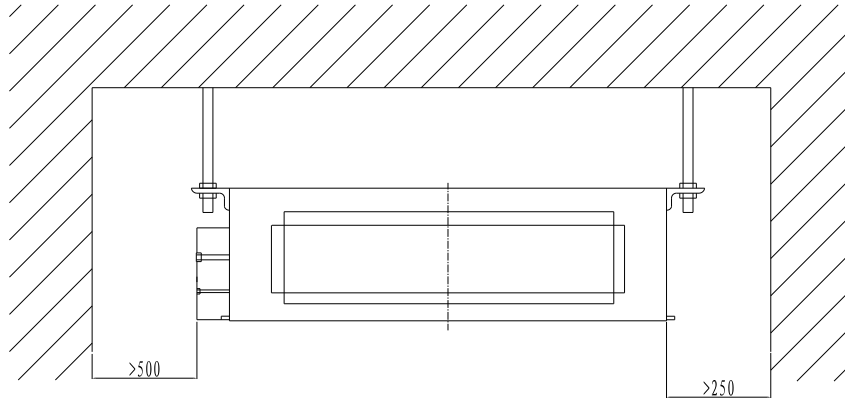

Figure 7
b. Install the hook onto the indoor unit, shown in Figure 7.